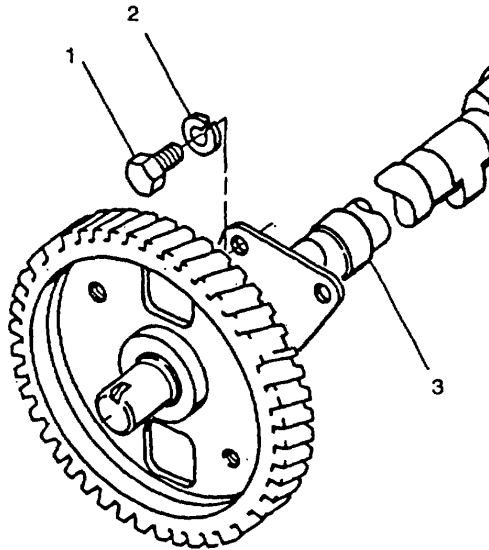

FIGURE 3-34. Camshaft Assembly
- e. Rotate camshaft until large holes in gear line up with two capscrews (1, FIGURE 3-34).
- f. Remove two capscrews (1) and lockwashers (2) securing thrust plate to crankcase; remove camshaft (3) from crankcase keeping it square at all times. Discard lockwashers.
- a. Carefully install camshaft (3, FIGURE 3-34) into crankcase keeping it square at all times. Take care to line up 'O' timing marks on crankshaft and camshaft gears exactly.
- b. Rotate camshaft (3) until large holes in gear line up with bolt holes in thrust plate.
- c. Turn thrust plate as necessary to install two capscrews (1) and new lockwashers (2). Tighten capscrews (1) to 75-80 in-lbs (8.4 to 9.0 Nm).
- (1) Push camshaft towards flywheel end.
- (2) Install a dial indicator in position against gear wheel.
- (3) Zero the dial indicator.
- (4) Move camshaft as far as it will go towards gear end. Movement recorded on the dial indicator should be 0.004 to 0.011 in. (0.10 to 0.28 mm)